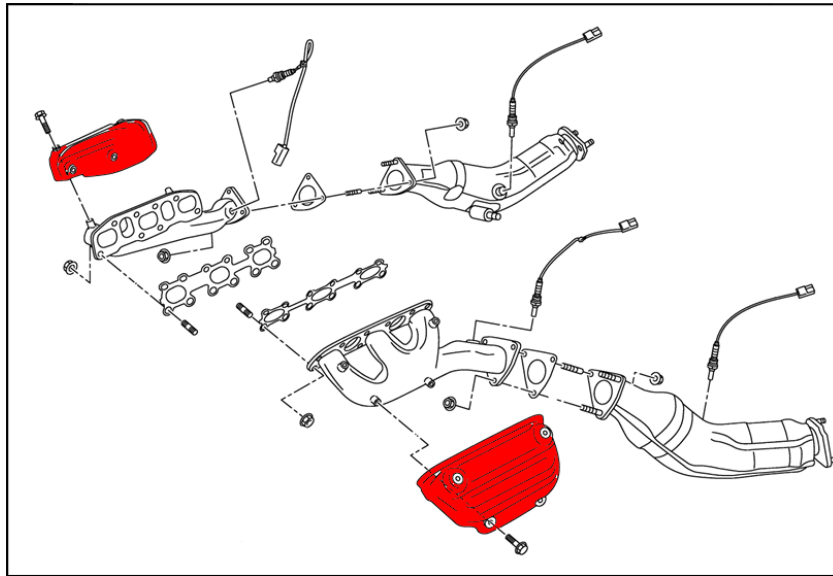

Figure 6
15. Remove the Heat Shields from the Exhaust Manifolds. Each is held on by (4) four bolts. *Figure 6.*